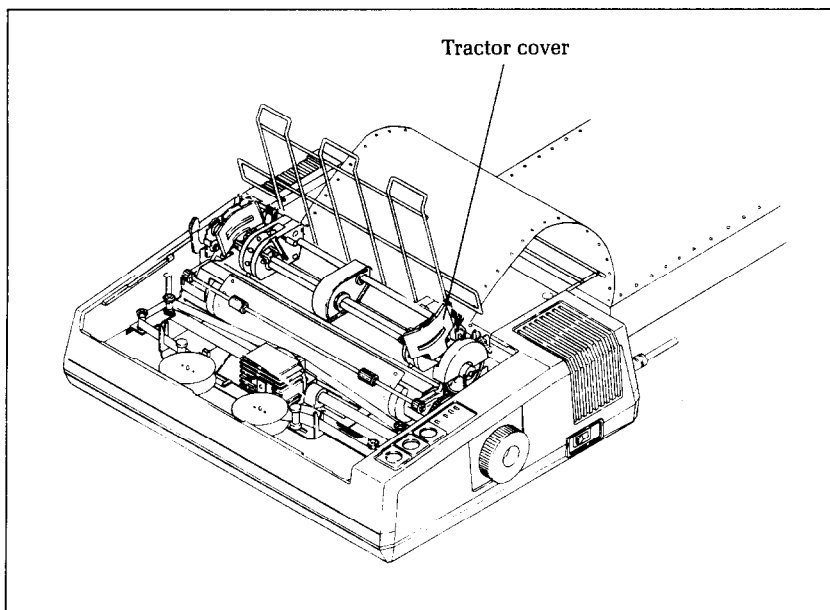

Figure 1-9. Open the tractor covers to expose the sprocket teeth.
5. Open the tractor covers, atop the right and left sprocket units, as shown in Figure 1-9.
5. Open the tractor covers, right and left (Figure 1-9).